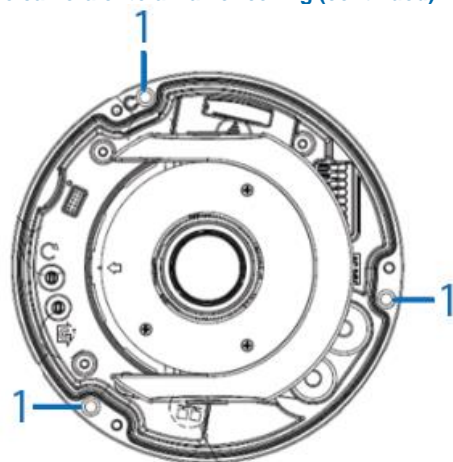

Figure 4
5. Remove the three captive screws on the camera bottom base (1) (Figure 4).